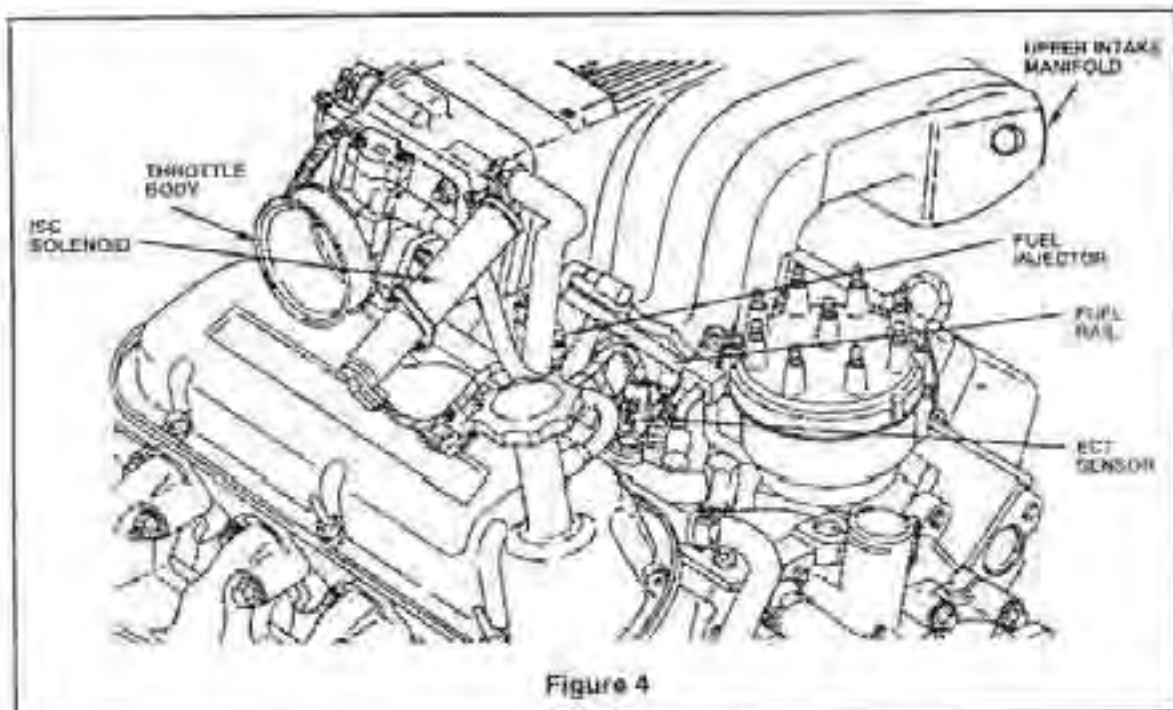

Figure 4
8.3 Motorsport sensors have thread sealant pre-applied and are ready for installation. Install the engine coolant temperature sensor (ECT) into the sensor mount in the black coolant tube. **NOTE:** If the factory coolant tubes are not used, the ECT sensor must be installed inline in the heater hose going from the intake manifold to the heater core, or directly into the coolant passage threaded boss in the intake manifold near the thermostat. (See Figure 4, page 10)